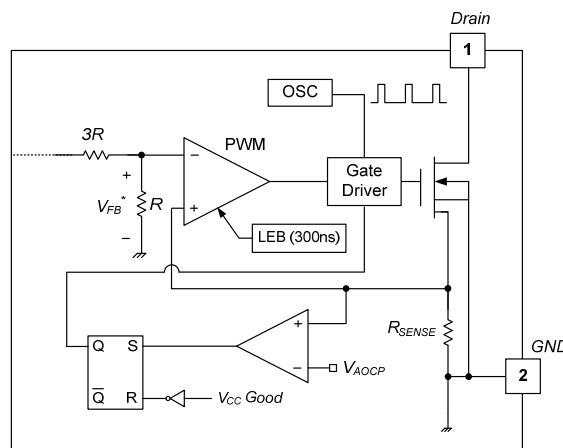

Figure 21. Abnormal Over-Current Protection
4.2 Abnormal Over-Current Protection (AOCP): When the secondary rectifier diodes or the transformer pins are shorted, a steep current with extremely high di/dt can flow through the SenseFET during the minimum turn-on time. Overload protection is not enough to protect the FSL176MRT in that abnormal case; since severe current stress is imposed on the SenseFET until OLP is triggered. The FSL176MRT internal AOCP circuit is shown in Figure 21. When the gate turn-on signal is applied to the power SenseFET, the AOCP block is enabled and monitors the current through the sensing resistor. The voltage across the resistor is compared with a preset AOCP level. If the sensing resistor voltage is greater than the AOCP level, the set signal is applied to the S-R latch, resulting in the shutdown of the SMPS.